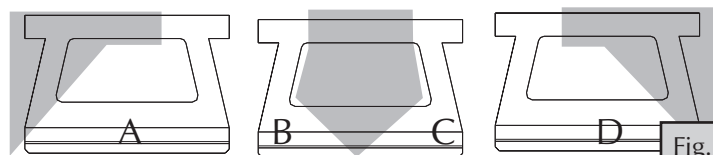

Fig. C-1
See Fig. C-1 Tip
- Cut two AB units as shown in figures A and B. NOTE: Three AB blocks will provide for two complete corners (Fig. C-1).
- Cut two AB units labeled C and D (Fig. C-1).